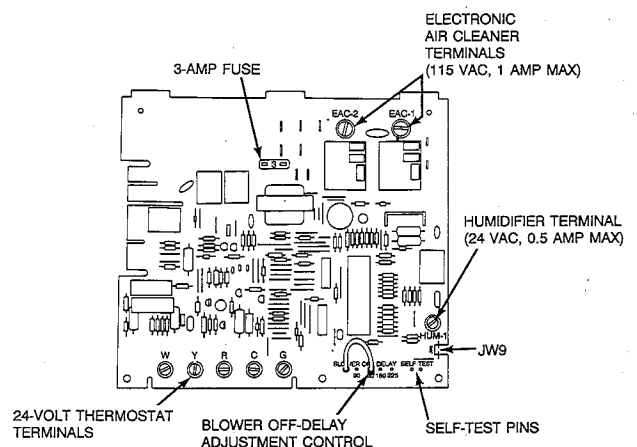
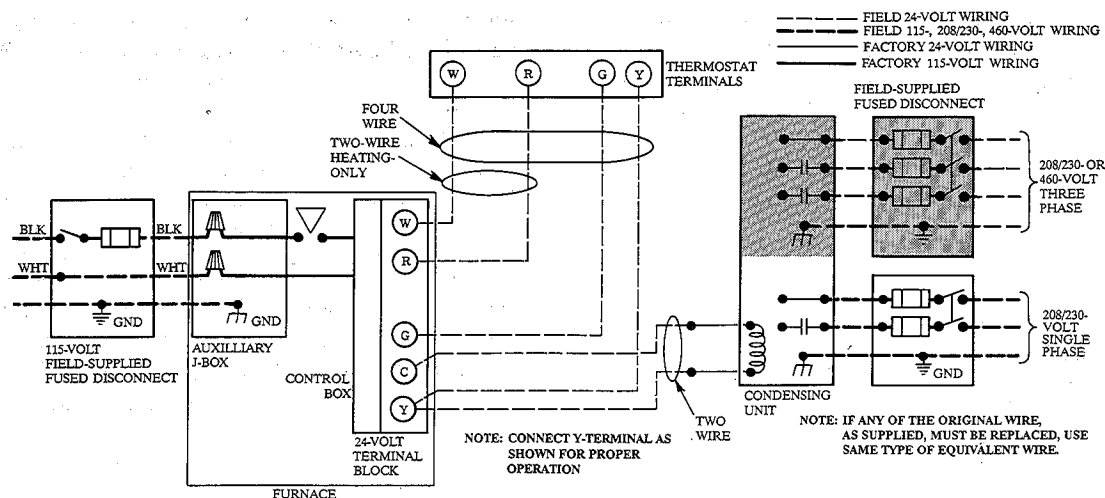

Fig. 11 — Control Center
Fig. 12 — Heating and Cooling Application Wiring Diagram
24-VAC WIRING — Make field 24-v connections at the 24-v terminal strip. (See Fig. 11.) Connect terminal Y as shown in Fig. 12 for proper operation in cooling mode. Use AWG No. 18 color-coded wire only.
1. Self-test—The furnace features a self-test system to help diagnose a system problem in the case of a component failure. Two test pins (ST-1 and ST-2) are located in the upper right-hand corner of the control board as shown in Fig. 11. To initiate the self-test procedure, momentarily short across the 2 pins (approximately 0.5 sec).